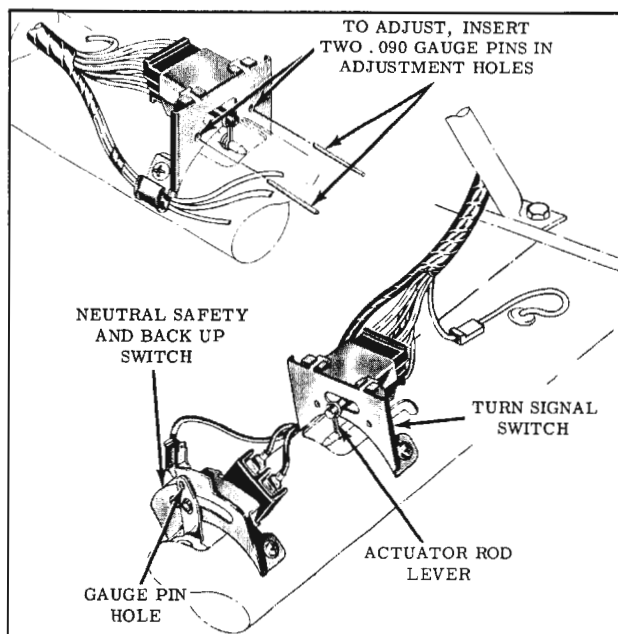

Fig. 14-142 Turn Signal Switch
1. Disconnect the harness plug connector from the switch. (Fig. 14-142)
1. Position switch on mast jacket with the actuator pin inserted into the actuator rod lever as shown in Fig. 14-142.
3. With the turn signal lever in the neutral position, shift the switch back and forth on the mast jacket until two .090" pins can be inserted into the holes in the face of the switch. (Fig. 14-142)
2. Position the switch on the mast jacket so that a .090" pin can be inserted through the hole in the switch arm and into the hole in the face of the switch. (Fig. 14-142)